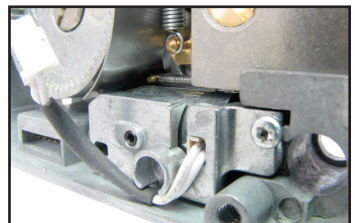

Figure 8 - Route cable properly.
- 9. Route solenoid cable between Lock Case wall and the “U” part of solenoid cover to avoid pinching by Back Cover (see Figure 8).